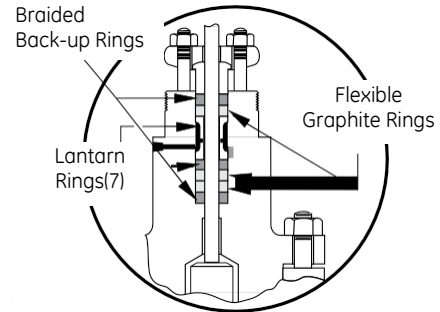

Figure 7 – Packing Ring arrangements with optional Lubricator Connection
- A. Loosen and remove packing flange nuts (3).
- B. Lift the packing flange (4) and packing follower (5) up the valve stem.
- C. By means of a hooked instrument , remove packing (6) ensuring not to damage the sealing surfaces of the packing box or plug stem.
**Note:** On valves equipped with an optional lubricator connection, the lantern ring (7) must also be removed to gain access to lower packing rings.
- D. Replace packing rings (6).
**Note:** On valves equipped with an optional lubricator connection, refer to Figure 7 for correct amount of rings to place under the lantern ring (7).
- E. Replace packing follower (5) and packing flange (4).
- F. Replace and tighten packing stud nuts (3).
**Note:** On valves equipped with an optional lubricator connection, refer to Figure 7 for correct arrangement according to valve size.
- F. Assemble packing follower (5) and packing flange (4).
- G. Assemble and tighten packing stud nuts (3).